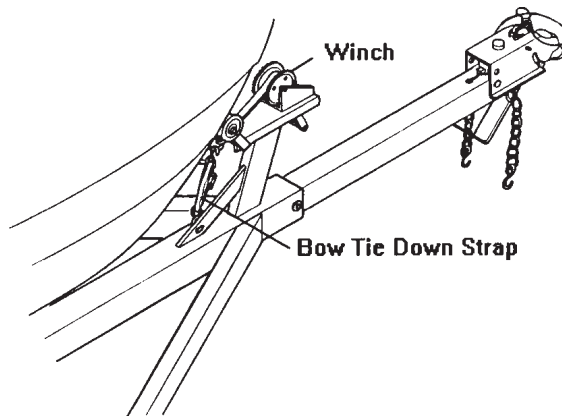

Figure P2: Trailer Tongue Assembly
3. Slide the tongue out and store in a safe place to prevent damage. See Figure P2.